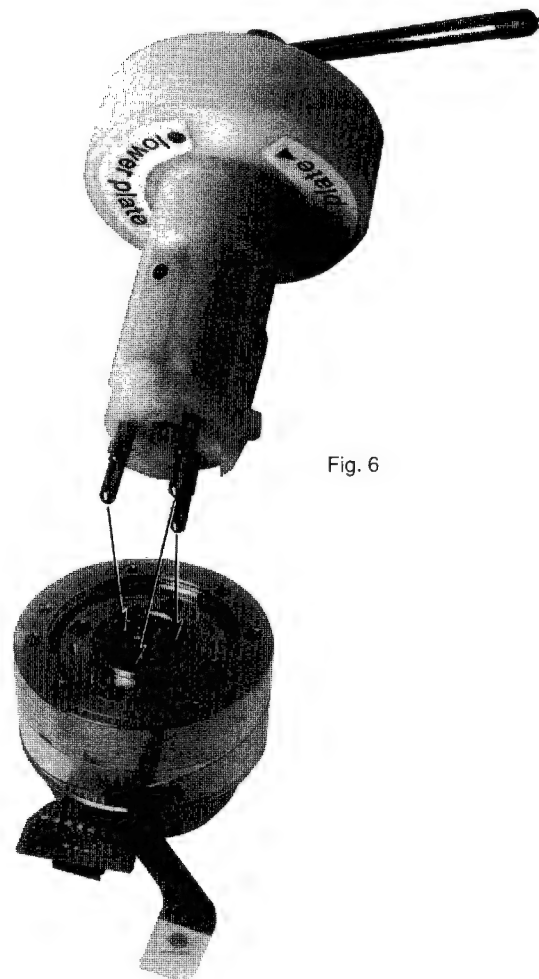

Fig. 6
- Prepare the tool for the lower clamping element. Position the tool on the head disc and make sure that all 3 pins are snapped in the the lower clamping element. Loosen the clamping element by turning the lever 90 degrees and remove the head disc plus the tool from the scanner spindle. (Fig. 6)